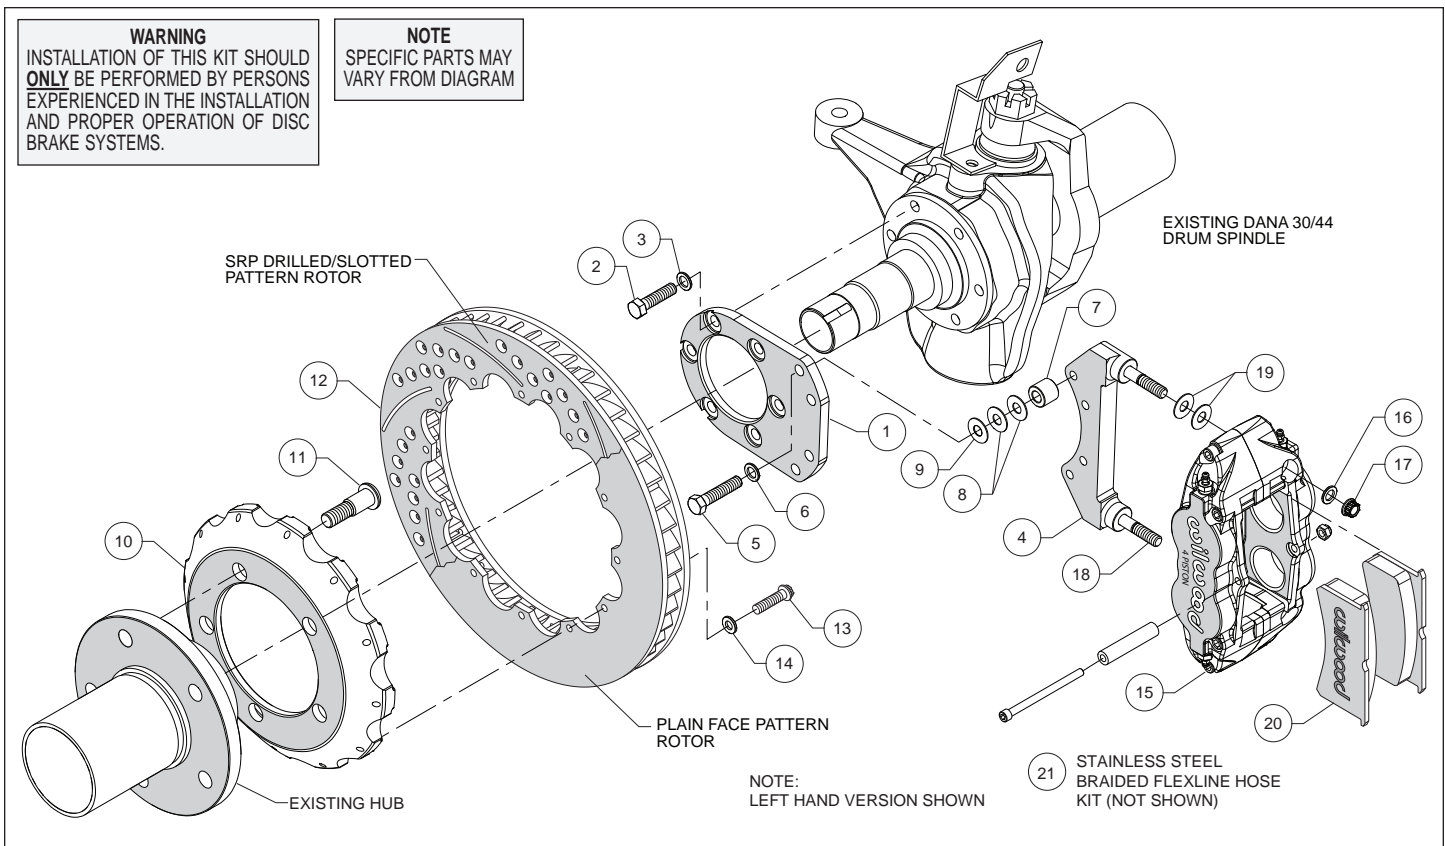
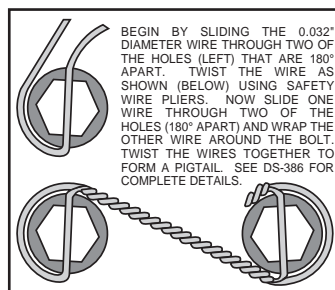

Figure 1. Typical Installation Configuration
Figure 3. Safety Wire Diagram
Assembly Instructions (numbers in parenthesis refer to the parts list and Figure 1 on the preceding pages):
- Orient the flat mount bracket (1) as shown in Figure 1 and Photo 1, and install using bolts (2), and washers (3). Ensure that the counterbored holes in the bracket are facing outboard, Figure 1. Temporarily tighten the mounting bolts. **NOTE:** *The bracket must fit squarely against the mount bosses on the upright.* Inspect for interference from casting irregularities, machining ridges, burrs, etc. Remove bolts one at a time, apply red *Loctite*® 271 to the threads and torque to 40 ft-lb.
- The caliper mount bracket (4) should initially be installed with clean, dry threads on the mounting bolts. Orient the bracket as shown in Figure 1 and Photo 2, and install using mount bolts (5) and washers (6). Initially place two .035" thick shims (8) and spacer (7) on each bolt between the flat and caliper brackets, Figure 1. Temporarily tighten the mounting bolts. Later, after the caliper alignment has been checked, the mount bolts will be secured using red *Loctite*® 271.
- Orient the hat (10) and the OEM hub as shown in Figure 1 and Photo 3. **NOTE:** *The hat must fit flush against the axle hub or excessive rotor run out may result.* Press fit the wheel studs (11) thru the holes in the hat and into the existing hub. **NOTE:** *We recommend this procedure be performed by a qualified machinist.*
- Orient the rotor (12) and the hat/hub assembly as shown in Figure 1 and Photo 4. Attach rotor to hat using bolts (13) and washers (14). Using an alternating sequence, apply red *Loctite*® 271 to the threads, and torque to 155 in-lbs. For an added measure of security, the bolts may be safety wired using standard 0.032 inch diameter stainless steel safety wire as shown in Figure 3. Please refer to Wilwood's data sheet DS-386 (available at www.wilwood.com/Pdf/DataSheets/ds386.pdf) for complete safety wire installation instructions.
- Lubricate the caliper mounting studs (18) with lightweight oil. Initially place two .035" thick shims (19) on each stud as shown in Figure 1 and Photo 5. Mount the caliper (15) onto the bracket (4) using lock nuts (17) and washers (16), Figure 1. Temporarily tighten the lock nuts and view the rotor through the top opening of the caliper. The rotor should be centered in the caliper, Photo 6. If not, adjust by adding or subtracting shims (8 and/or 9) between the spindle bracket and caliper bracket. Always use the same amount of shims on each of the four mounting bolts. Once the caliper alignment is correct, remove the bracket to bracket mounting bolts (5) one at a time, apply red *Loctite*® 271 to the threads, and torque to 35 ft-lb.